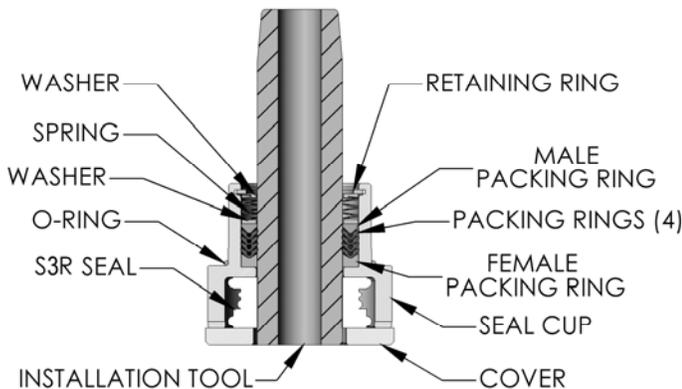

Figure 17a – Seal Cup Assembly
- Install the S3R seal in the seal cup as shown in figure 17a. Place the S3R seal on the packing installation tool in the order shown in figure 17b, with the upper segment at the tapered end of the installation tool. Insert the installation tool, with the S3R seal, into the seal cup, with the tapered end toward the packing rings. Place seal cup cover on seal cup and secure with two capscrews